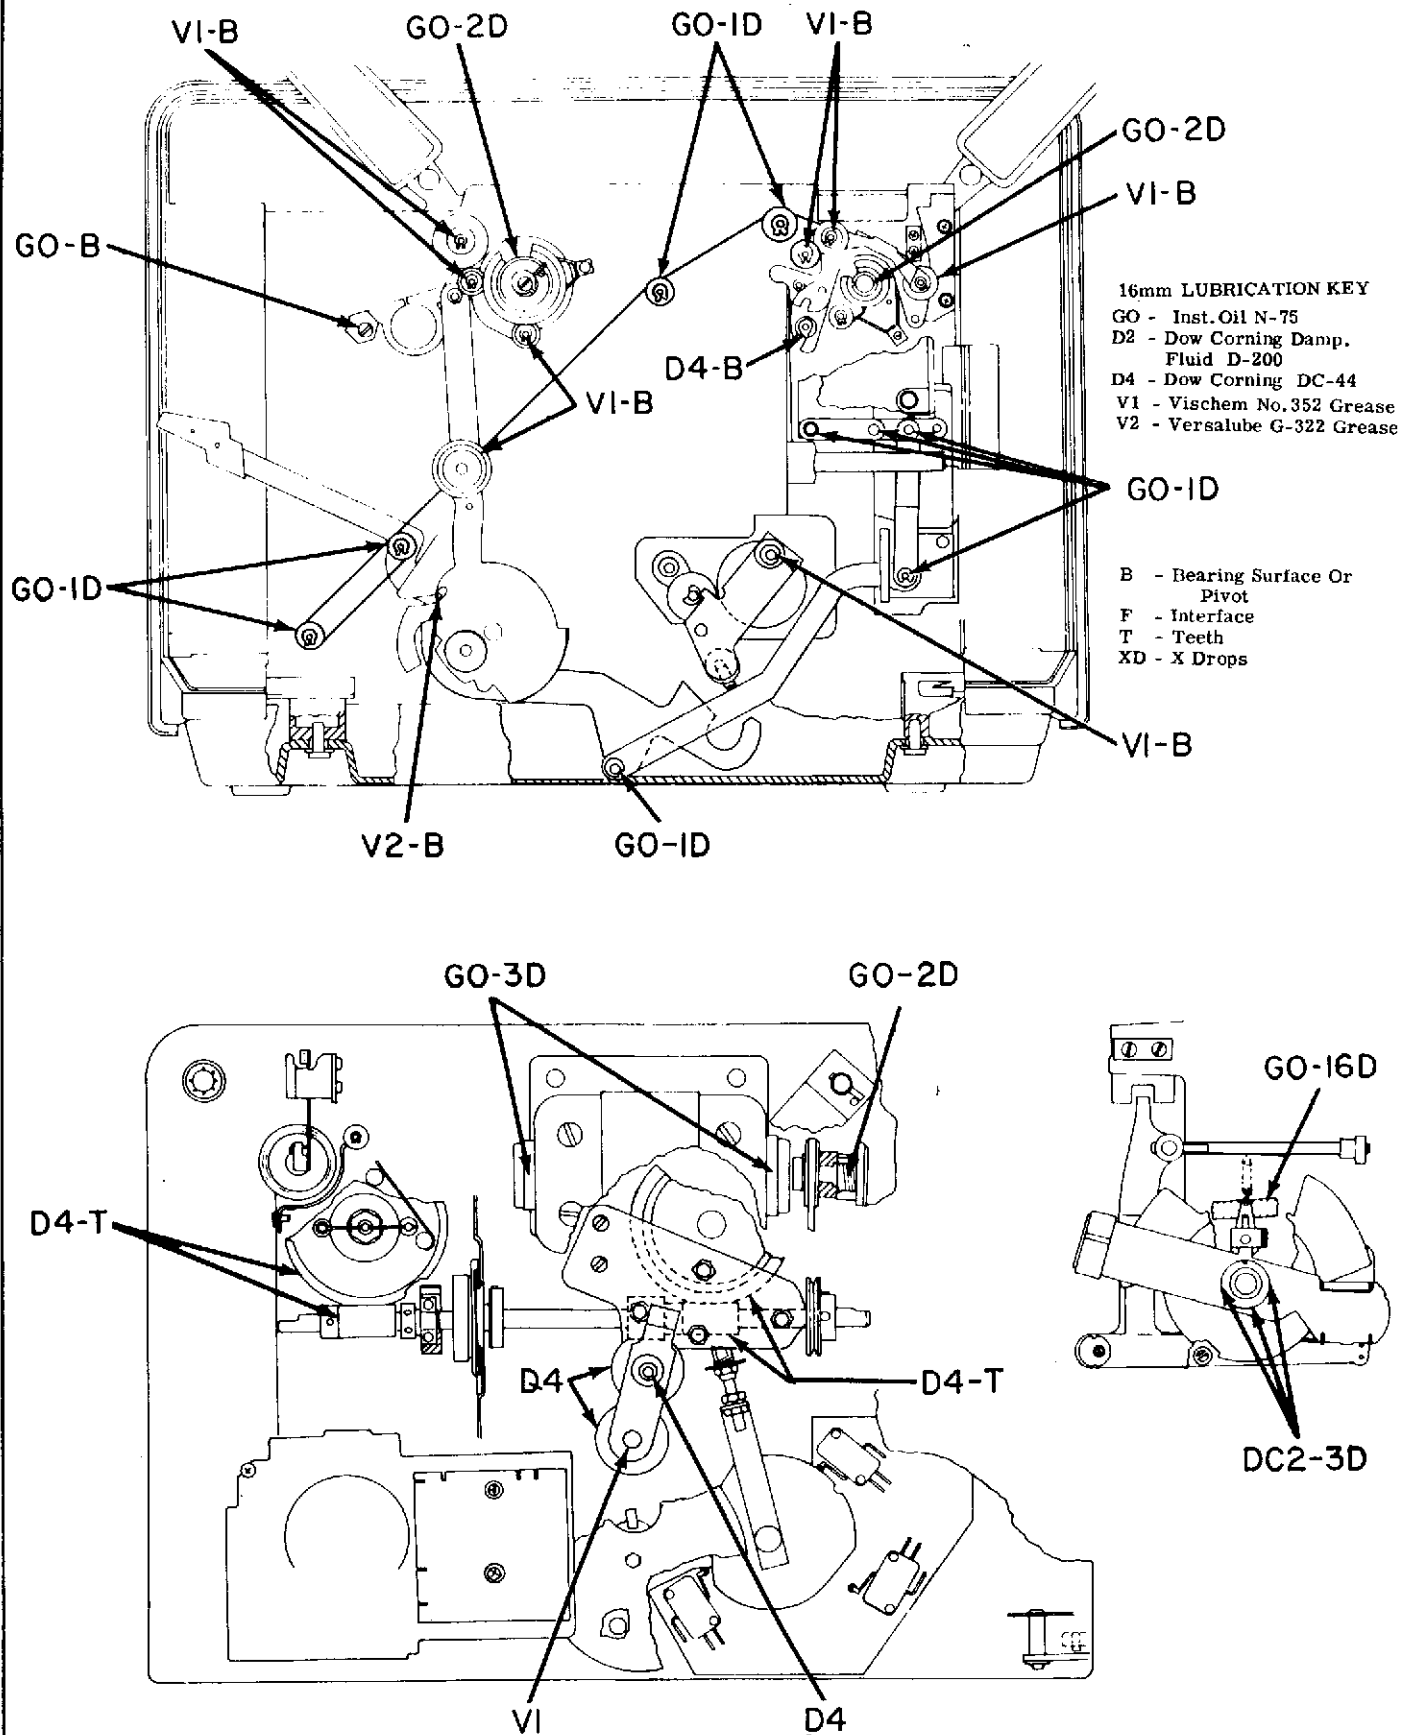

Figure 3-46. PREVENTIVE MAINTENANCE LUBRICATION POINT DIAGRAM
- a. Lubricate the points shown in Fig. 3-46 with lubricant indicated.